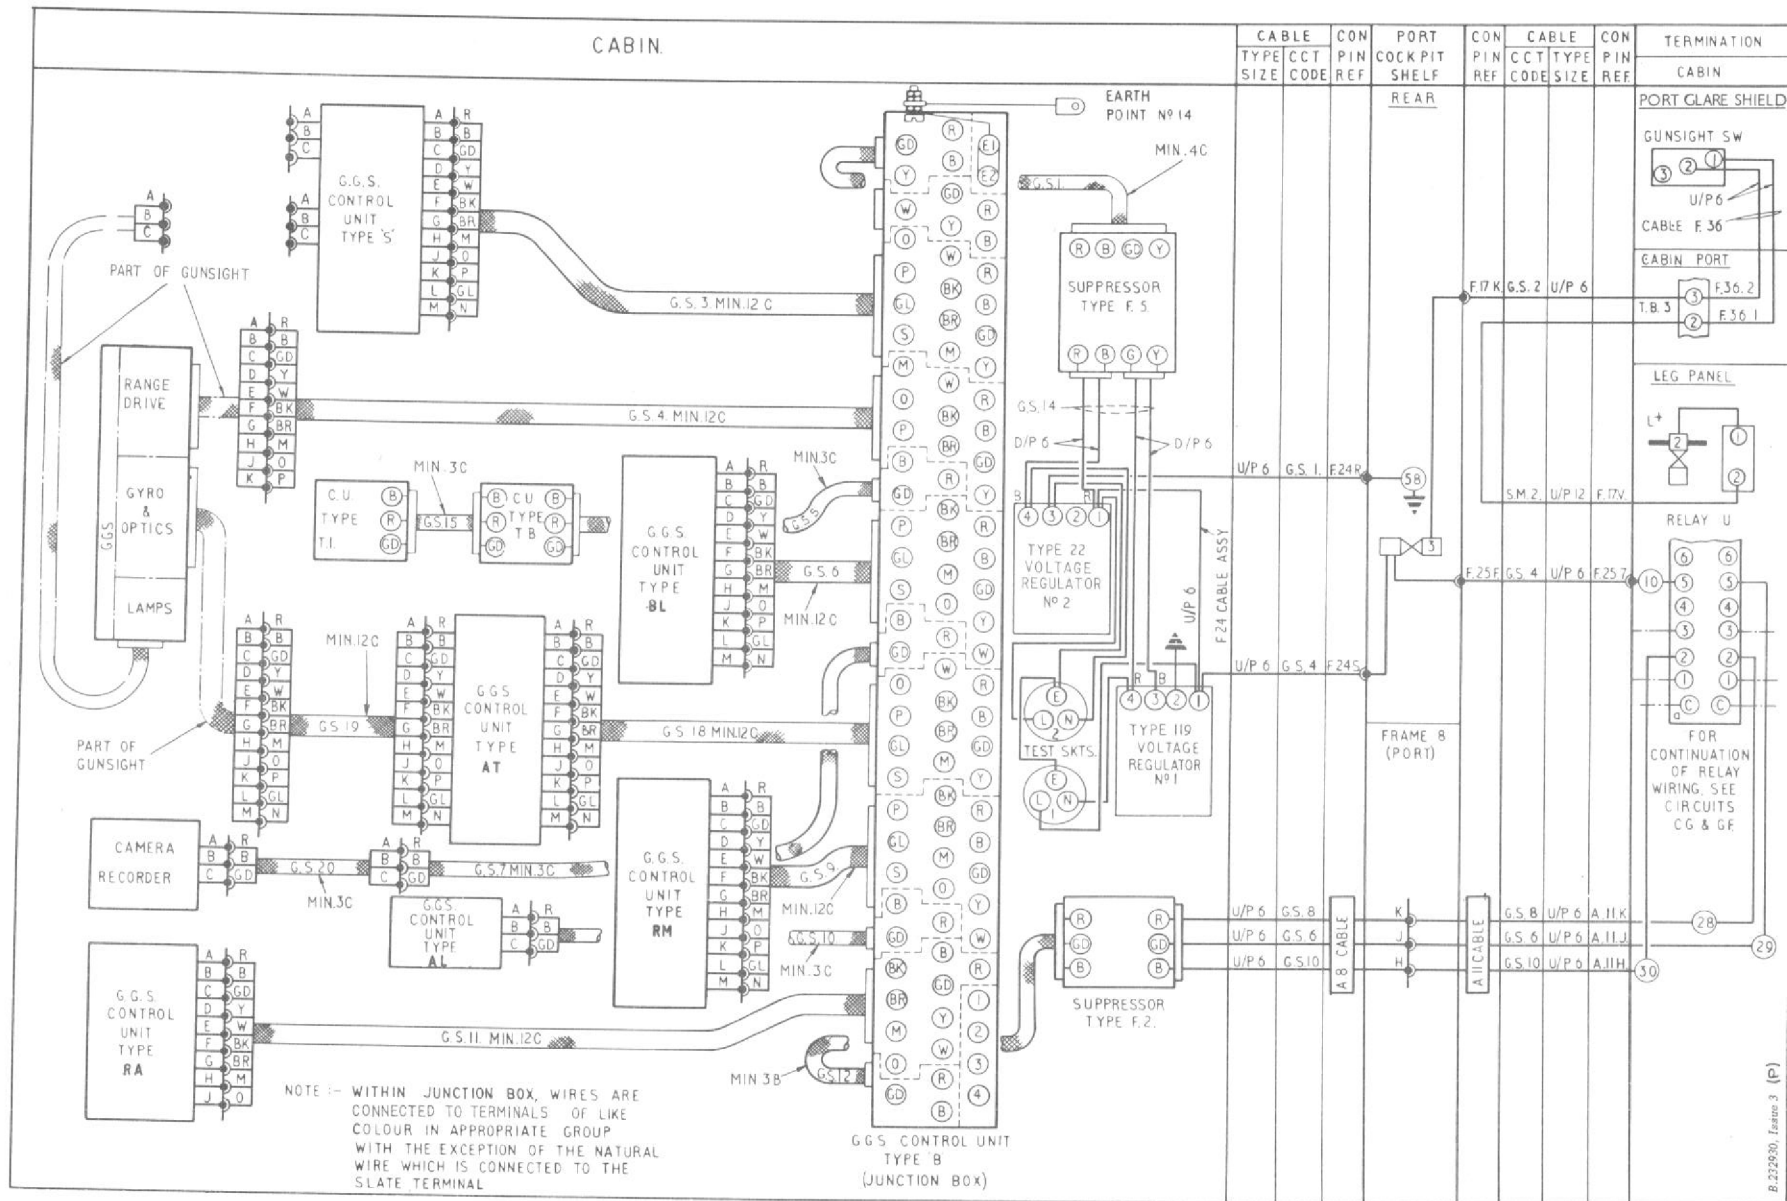

Fig. 1 Gyro gunsight and camera recorder (routing)
8. To eliminate radio interference, the regulated supply is taken through a suppressor; this is mounted on a bracket situated adjacent to the voltage regulators. Fig.1 and 2 are routeing and theoretical diagrams of the circuits. Full descriptions of the gyro gunsight and its equipment will be found in A.P.1275E, Vol.1. Descriptions of the camera recorder, and of other equipment associated with the gunsight installation, will be found in the appropriate Air Publications listed in paragraph 2 of this group.